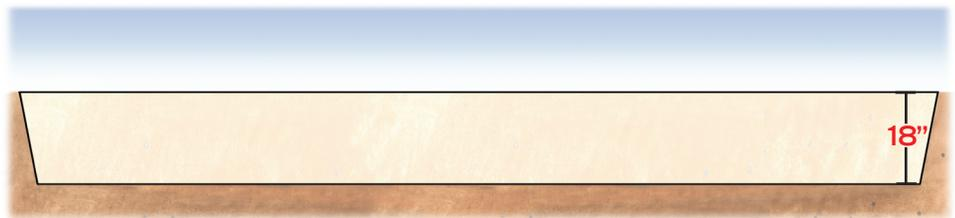

Figure 4
2. Dig the entire area to a depth of 18". (Figure 4)